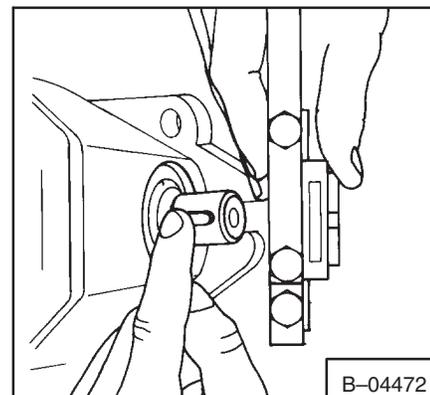

Fig. 3-21 Installing Pintle Key
5. Install the key on the shaft of the hydrostatic pump (Fig. 3-21) and install the pintle lever assembly.